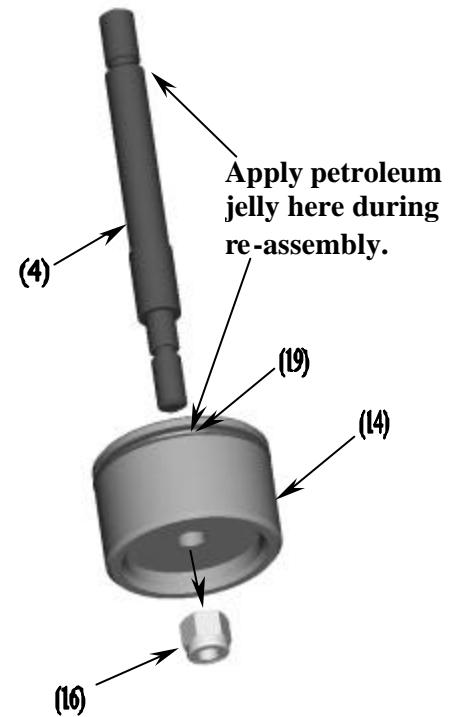
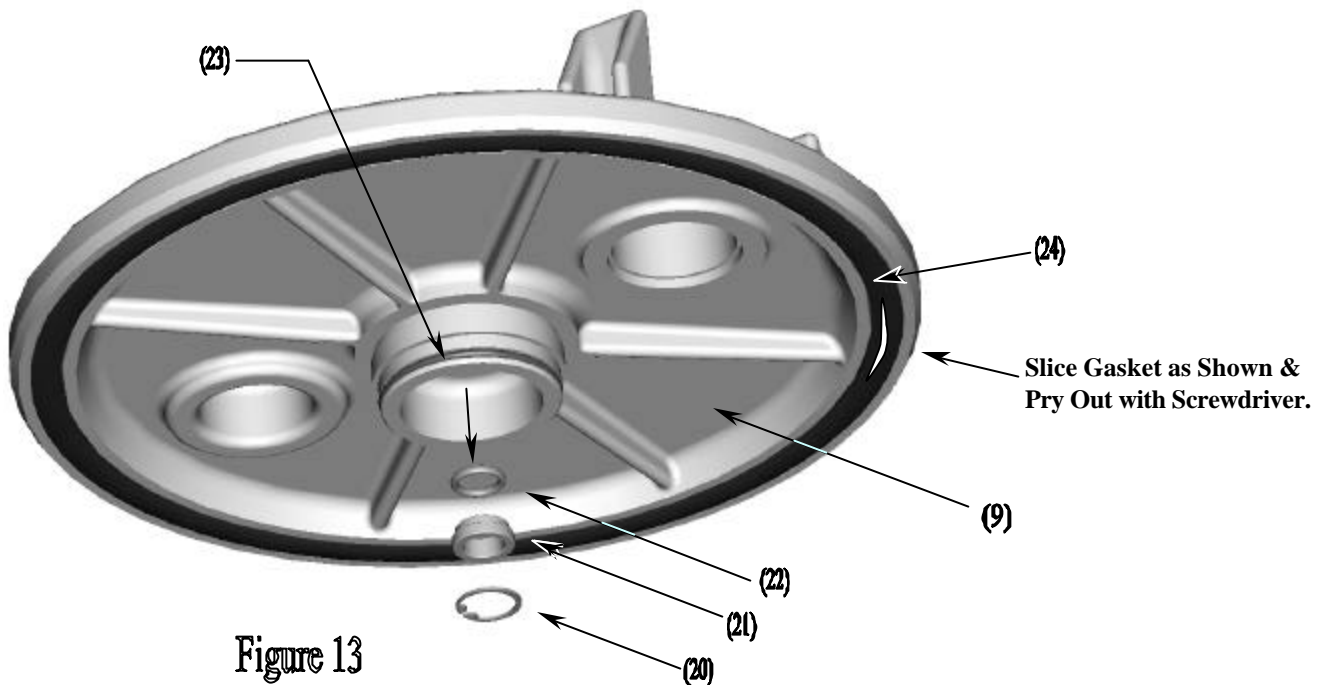
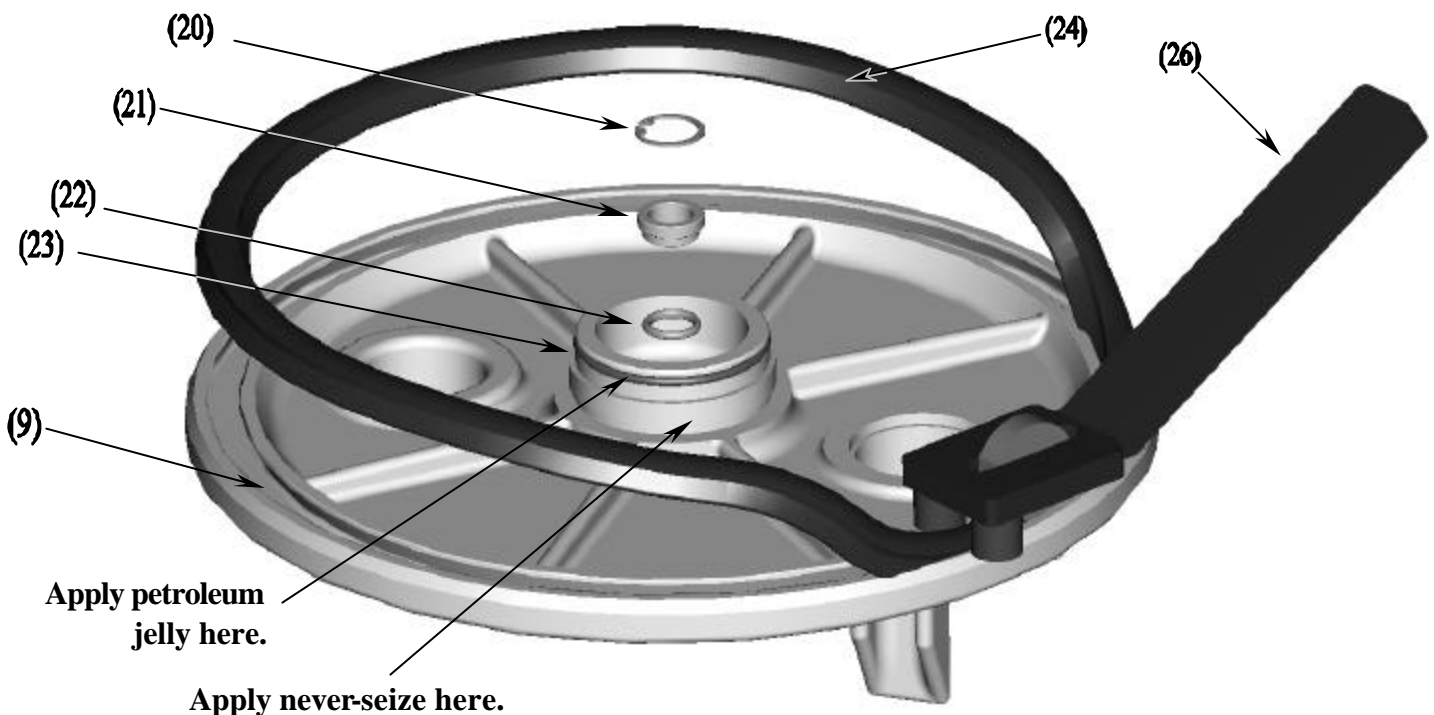

Figure 12
Figure 13
Figure 14
13. Disassemble the stem/piston assembly by inserting a 7/32 allen wrench into the top of the *Stem* (4) and unscrew the *LockNut* (16) using a 9/16 socket. See Figure 12. Note: The piston may appear different than shown depending on the model you may have.
14. If the *Piston O-ring* (19) requires removal, cut the o-ring with a razor blade, being careful not to damage the piston groove.
15. The *Stem O-ring* (22) and *O-ring Retainer* (21) are removed by using a snap ring tool to remove *Snap Ring* (20). See figure 13.
16. If the *Cylinder O-ring* (23) requires removal, cut the o-ring with a razor blade being careful not to damage the o-ring groove.
17. If the 10" *Fill Gasket* (24) requires removal, cut a small slot in the center of the gasket and use a screwdriver to pry gasket out of dovetail groove, being careful not to damage groove. See figure 13.
2. Cover sub-assembly: Refer to figure 14.
- 2.4. Use Betts' *Dove Tail Gasket Tool* (26) to place 10" *Fill Gasket* (24) into *Cover* (9). See figure 14.
3. Piston/Stem sub-assembly: Refer to figure 12 of section 5.
- 5.1. Smear a thin amount of never-seize compound on the threads of the *Cover (9)* as shown in figure 14.
- 5.2. Smear petroleum jelly around Cylinder O-ring (23) as shown in figure 14 and the top of the *Stem (4)* as shown in figure 12 of section 5.
- 5.3. Position the *Cover (9)* over the *Stem (4)* as shown in figure 12 of section 5.